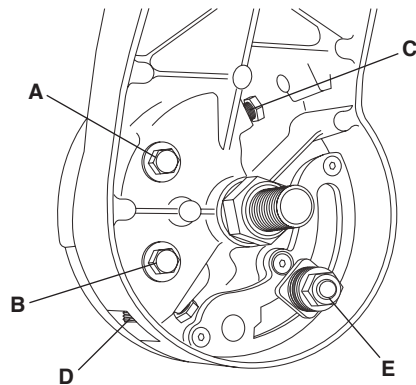

Figure 6. Calibrating Blade at 0 degrees (90 to the table)
3. Loosen bolt heads "A" and "B" with 10mm open-end wrench at least one full turn (Figure 6).
4. Place 4mm Allen wrench bit onto multi-purpose tool and loosen setscrew "D" at least 3 full turns (Figure 6).